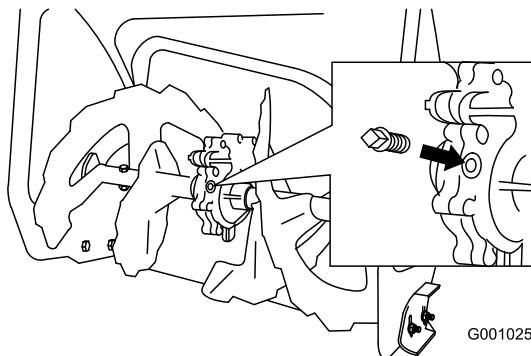

Figure 44
2. Clean the area around the pipe plug (Figure 44).